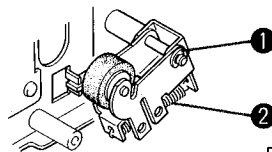

Fig. 4
① PINCH ROLLER REPLACEMENT
1. Remove the front panel assembly. (Refer to step ③ of DISASSEMBLY of CABINET.)
2. Remove the spring ② and E-stop ring ① in Fig. 4 and pull out the pinch roller forward.